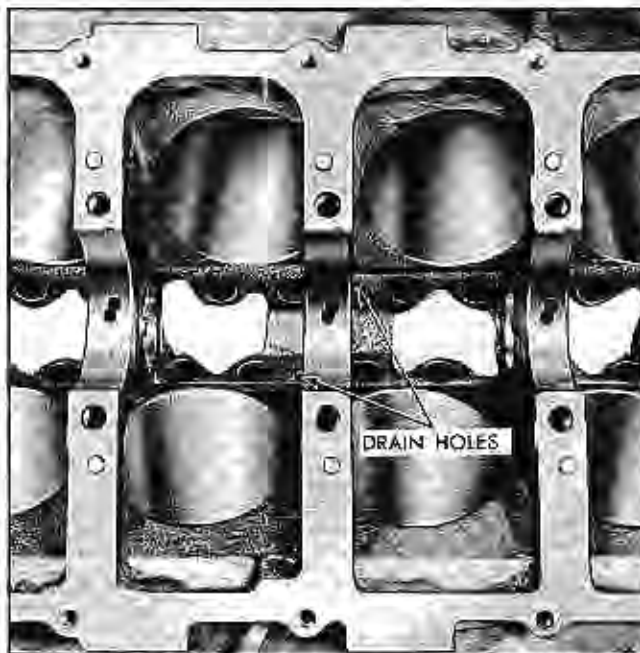

Fig. 6-80 Drain Holes Under Lower Crankcase Ventilator Baffle
h. Use wire to check two drain holes under lower crankcase ventilator baffle (Fig. 6-80).